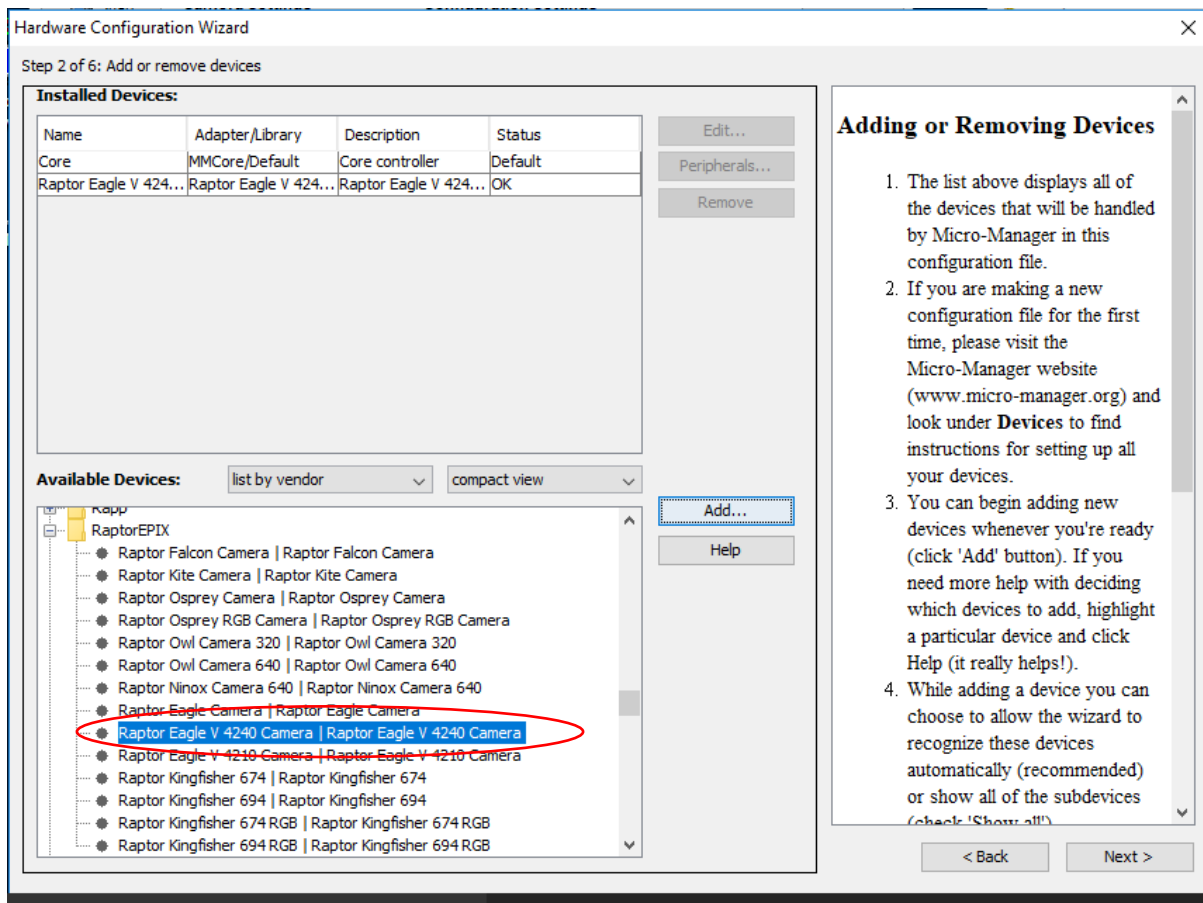

Figure 20: Add a New Device
2. Select "Stretch Contrast, Histogram Percentile Endpoints" and "Preview" Figure 20: Stretch Contrast.
2. Create a new configuration and add the raptor adapter from the list (shown in Figure 20), now click Next.
3. Continue to click Next until you are faced with the screen shown in Figure 20.